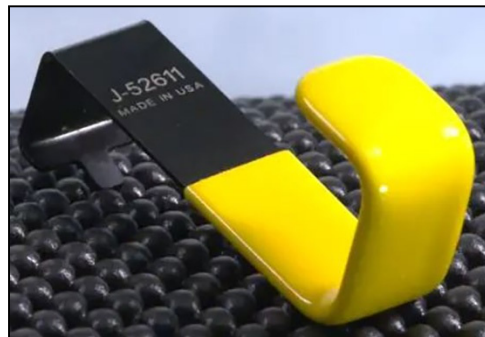
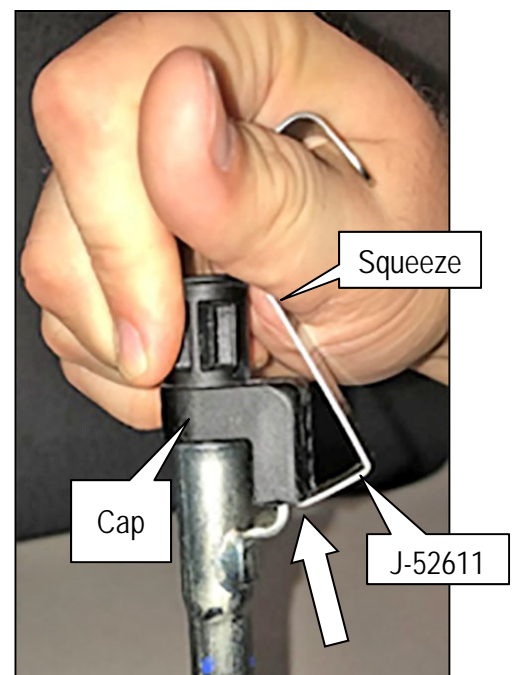
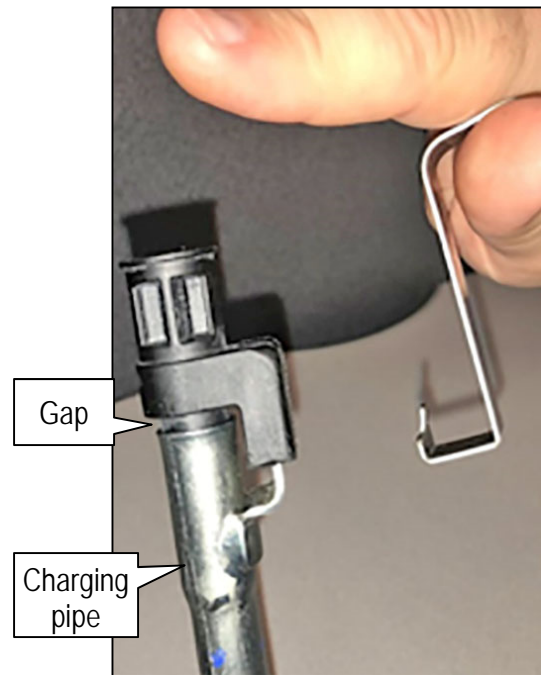

Figure 2
Figure 3
Figure 4
7. Install special tool CVT Charge Pipe Cap Release (J-52611) where shown in Figure 3.
NOTE: The tool shown in Figure 3 & Figure 4 is the same as the one shown in Figure 2, but looks slightly different.
8. Squeeze the tool toward the cap, and then slightly lift the cap (see Figure 3).
- Notice the gap between the cap and charging pipe in Figure 4.